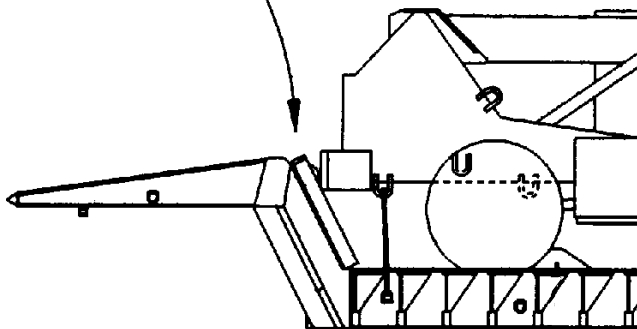

Figure 78. When to use dunnage.
1. Make sure wood bumpers are on the M747 gooseneck for all single vehicle loads. Use wood dunnage on M870 and M172A1 goosenecks when a portion of the payload vehicle will contact the gooseneck (fig78). Avoid metal-to-metal contact.